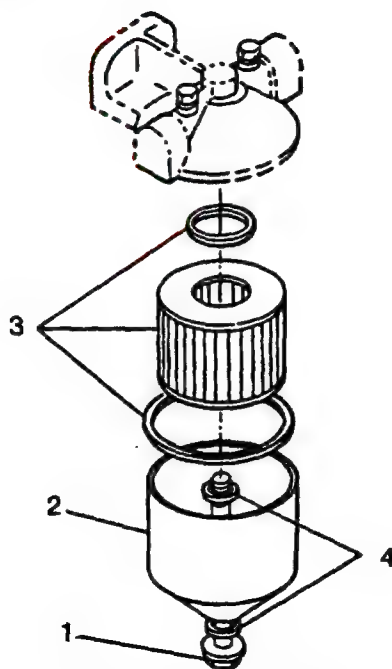

FIGURE 3-12. Fuel Filter
- a. Remove through bolt (1 **FIGURE 3-12**) and cannister (2).
- b. Remove and discard fuel filter (3) and gaskets
- c. Install new filter (3) and gaskets.
- d. Fill cannister (2) with clean fuel.
- e. Install cannister (2) with bolt (1).